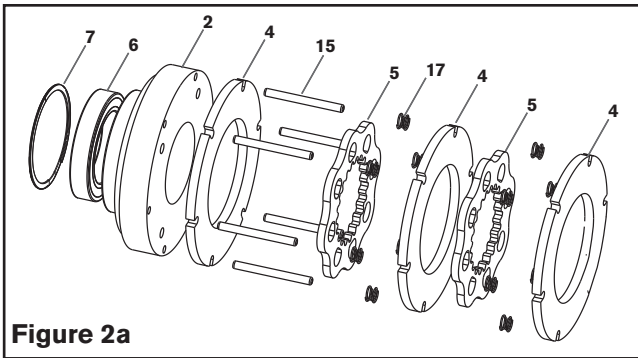

Figure 2a
6. Remove Friction Facings (Item 4) and Friction Plates (Item 5) along with the springs (Item 17) from the drive pins (Item 15) (Figure 2a).